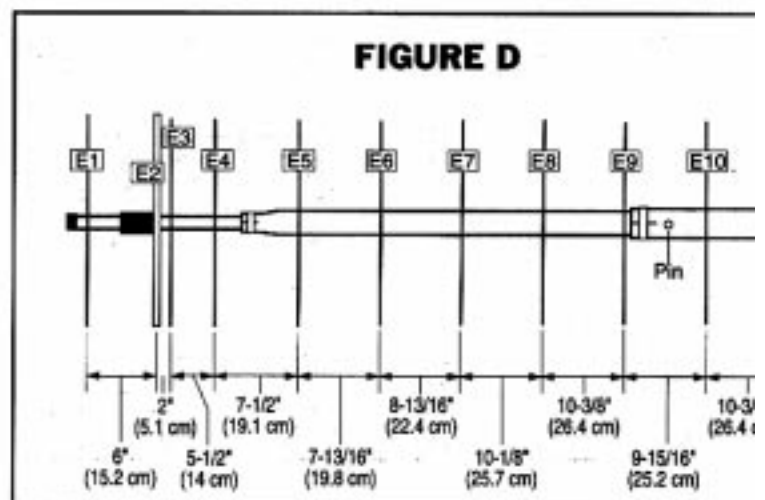

**FIGURE B-1**
Assemble the modified T-Match to driven element E2 as illustrated in figure B. Assemble the two reddi-matches and attach to UltraMatch with washer and nut (41 & 11). Assemble both sets of reddi-match clamps and position as shown in figure B. Do not tighten at this time. Push on end caps (53) on to ends of dipole and push on white caps (51) onto ends of reddi-match. Attach Ultramatch and dipole to boom BA as shown. Note that the N connector should point to the rear of the boom. Set dimensions (figure B-1). Tighten all hardware.